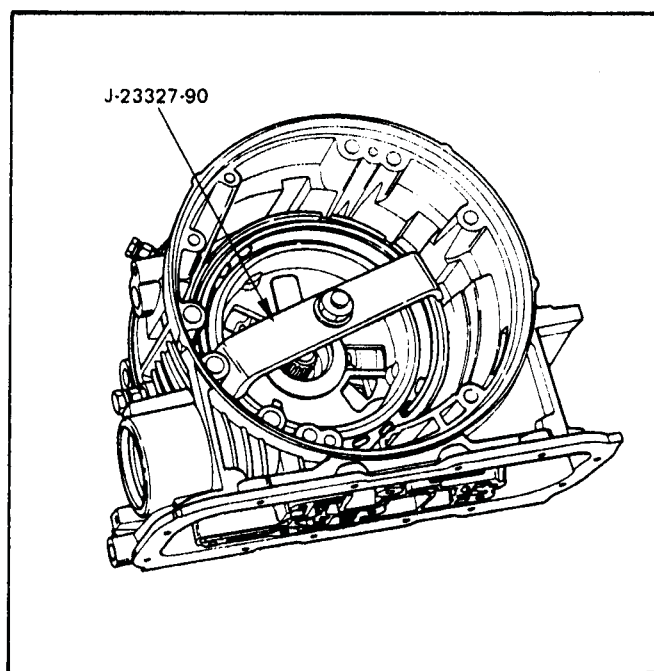

Figure 63
28. Install spring compressor J-23327-90 as shown in Figure 63.